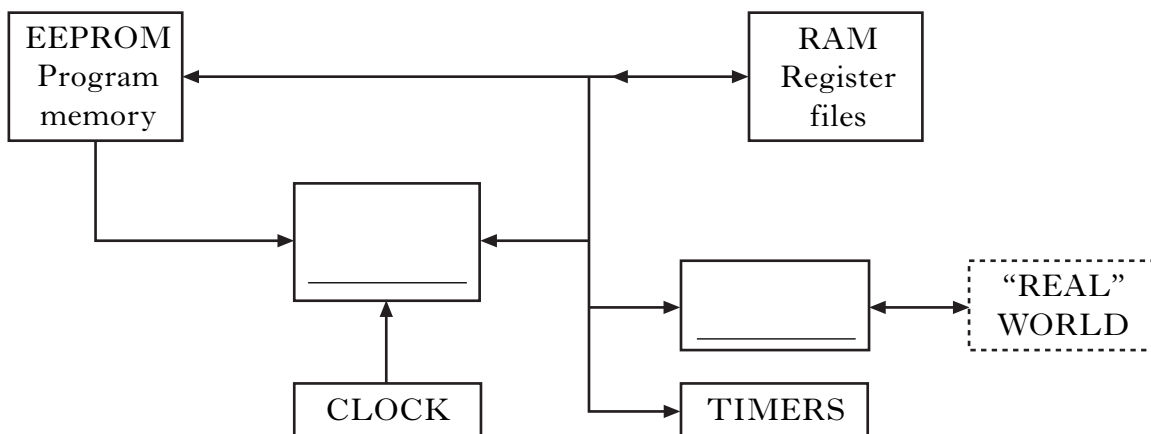

Figure Q3(b)
A simplified block diagram for the microcontroller used is shown in Figure Q3(b).
- (b) Complete the block diagram in Figure Q3(b) for the microcontroller.